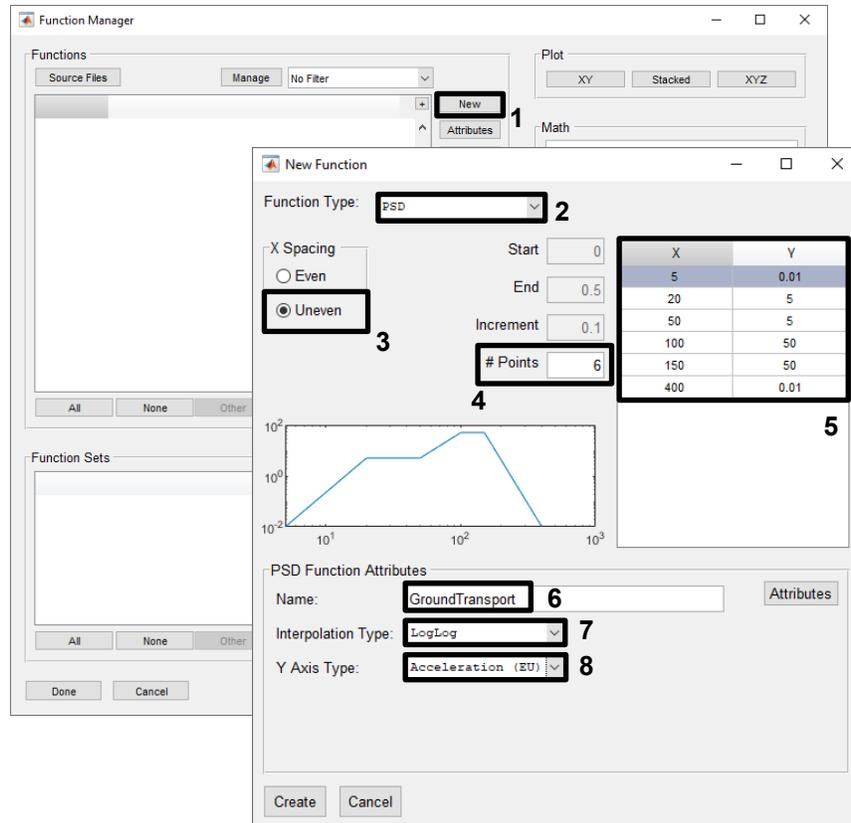

Figure 4-38. Create the acceleration PSD that will be used to excite the ISat.
2. In the Function Manager, click **New** to bring up the *New Function* dialog. As shown in Figure 4-38, set the *Function Type* to *PSD*, the *X Spacing* to *Uneven*, and the number of points to 6. Key in the frequencies and amplitudes as shown. Set the *Y-Axis Type*